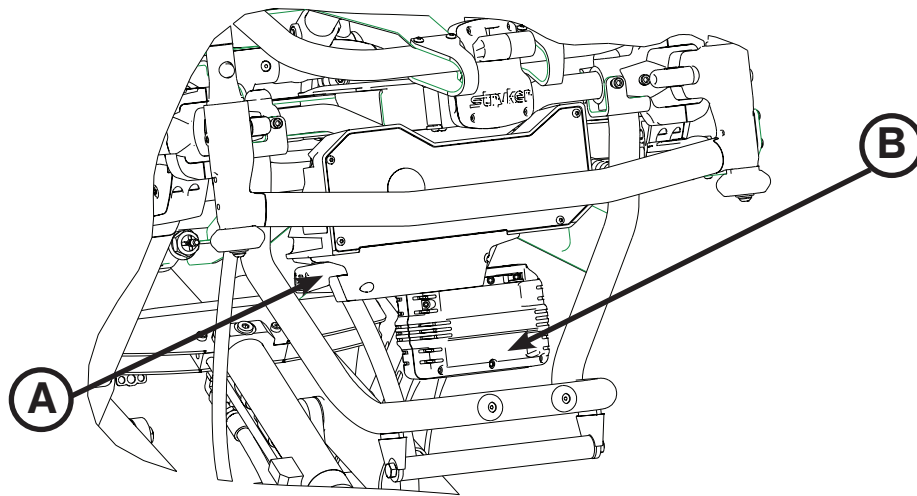

Figure 17: DEWALT® Battery Removal & Replacement
1. Press the red battery release button (A), located on the patient right side of the foot end control enclosure, to release the battery (B) from the cot as shown in Figure 17.